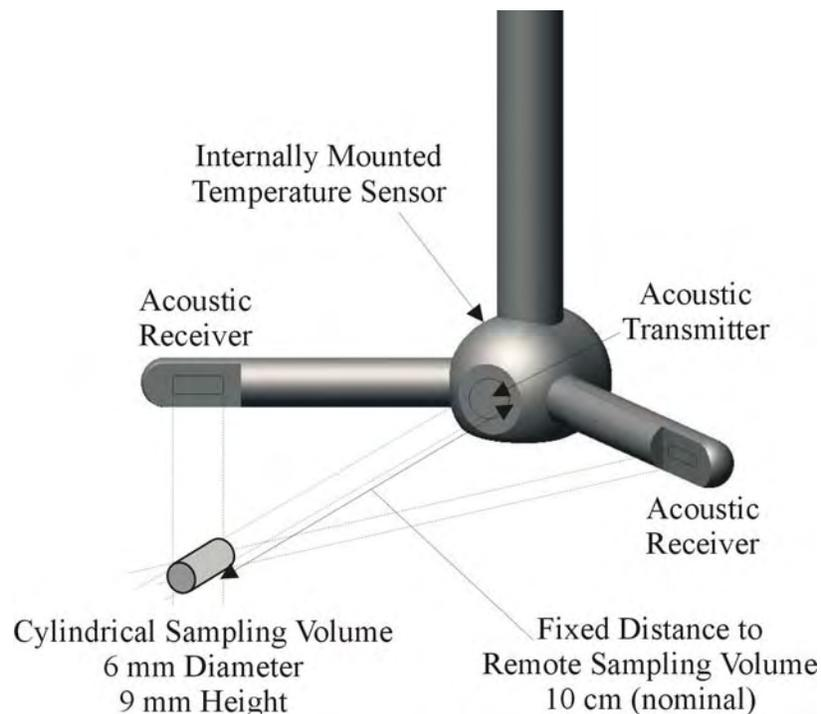

Figure 2 – 2D Side Looking FlowTracker Probe and Sampling Volume
- **Probe** – The probe (Figure 2) contains the acoustic elements used to measure velocity. See the *FlowTracker Principles of Operation* for more information.
The following terms are commonly used with the FlowTracker probe (Figure 2).